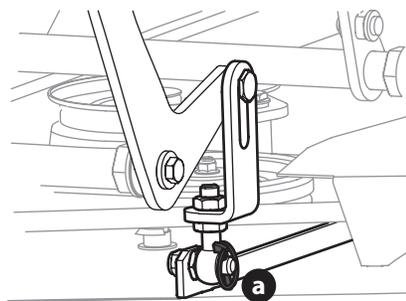

Figure 50
4. Remove the four lynch pins (a) that secure the deck to the deck lift assembly (Figure 50).